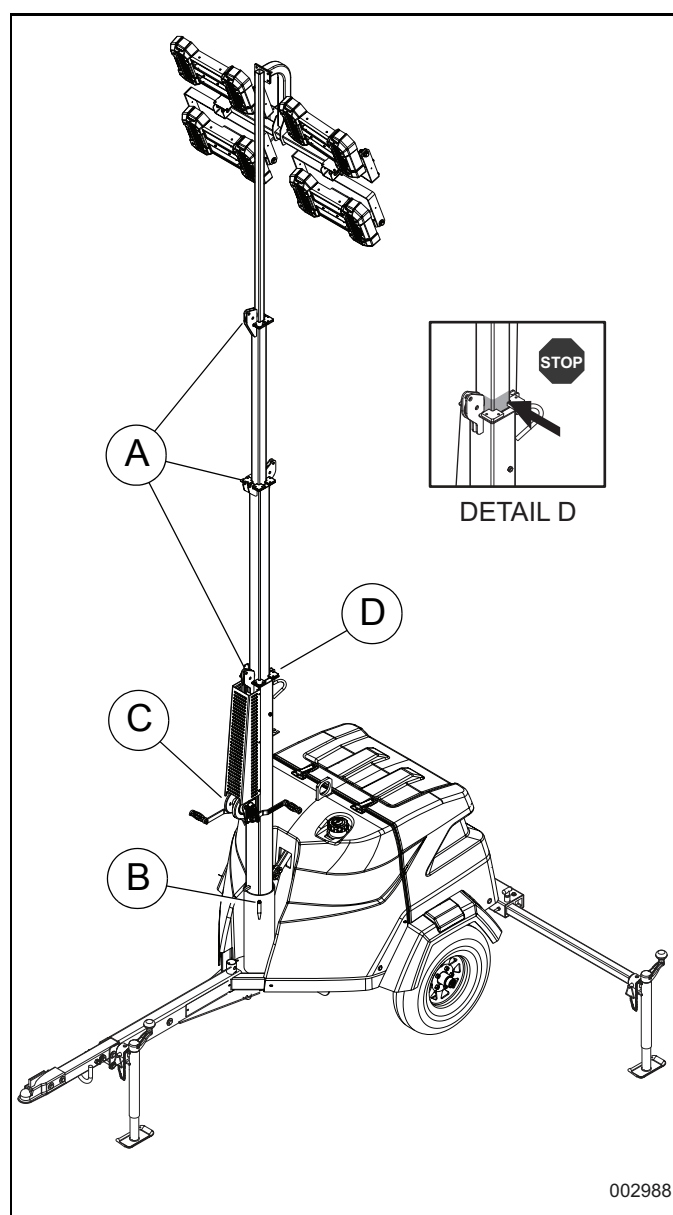

Figure 3-2. Pulley Locations - Manual Winch
2. See Figure 3-2. Check the mast cables for excessive wear or damage. Make sure the cables are properly centered in each pulley (A). Check the electrical cord for damage.
3. Rotate the mast by loosening the mast rotation knob (B) at the bottom of the mast. Turn the mast until the lights face in the desired direction, and then tighten the mast rotation knob to secure the mast in position.
4. Use the winch (C) to slowly extend the mast, making sure that the coiled electrical cord is extending at the top sections of the mast. STOP extending the mast when the colored mark (D) on the second mast section is visible as seen in Detail D.